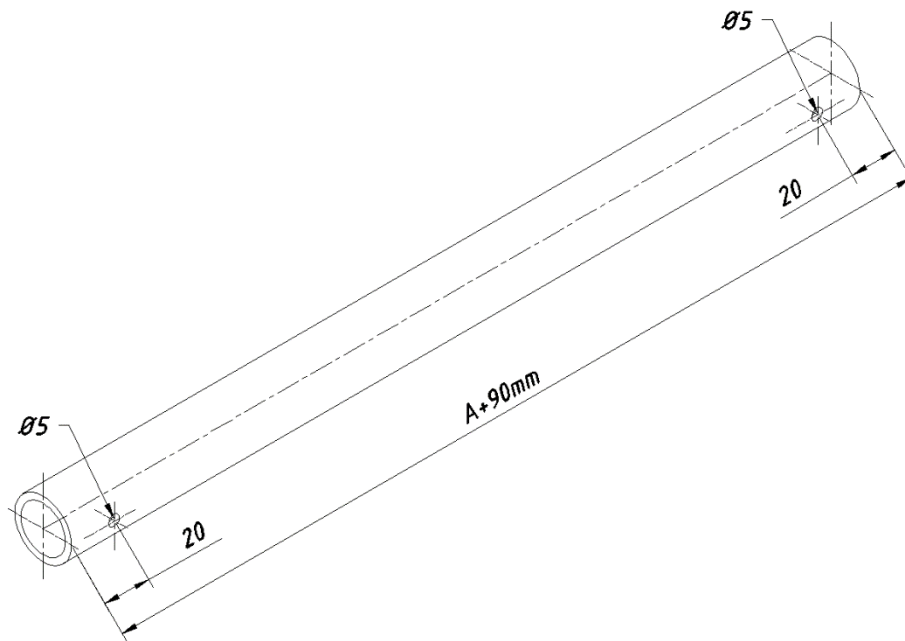

FIGURE 6
- 2- Cut a piece 90 mm longer than the measured distance A using the tube described above. (Figure 6)
- 3- Drill only the single wall thickness of the tube with a $\varnothing 5$ drill from 15mm from both ends of the tube. Do not drill the tube completely. These half-holes will function as a guide hole when drilling the safety gear lever shaft. Try to drill holes in the same axis as possible along the tube's axis. (Figure 6)